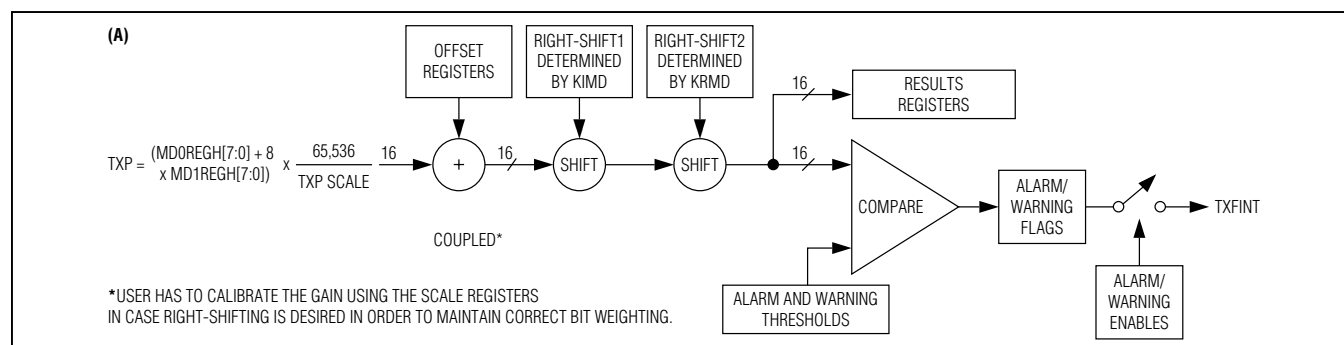

Figure 1a. ADC Channel Only for TXP when BURST_MODE = 1 in Table 02h, Register 89h
*See Figure 1a, 1b
The DS1886 monitors five ADC channels. This monitoring combined with the alarm enables (A2h Table 01h/05h) determines when/if the DS1886 turns off the MAX3710 DACs and triggers the TXFOUT and TXDOUT outputs. All the monitoring levels and interrupt masks are user-programmable. See Figure 1a.
TXP is then right-shifted (Figure 1a).